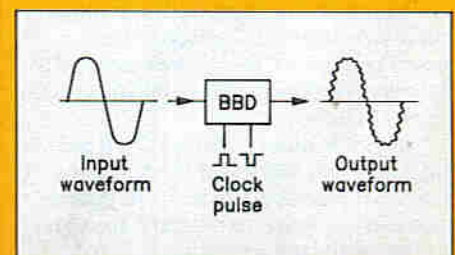

Figure 3. Bucket-Brigade-Device.
typically 'D to A' with a stepped waveform reconstruction of the original signal superimposed with clock pulses, as shown in Figure 3. The clock pulses are then removed and the signal 'cleaned up' by low-pass filter IC6a. Delay line circuits such as this one are usually run with a clock frequency two to three times that of the audio signal being processed, and this limits the frequency spectrum – or bandwidth – of the signal. The maximum number of delay stages (512) and the delay clock frequency all play a part in determining the bandwidth as well.